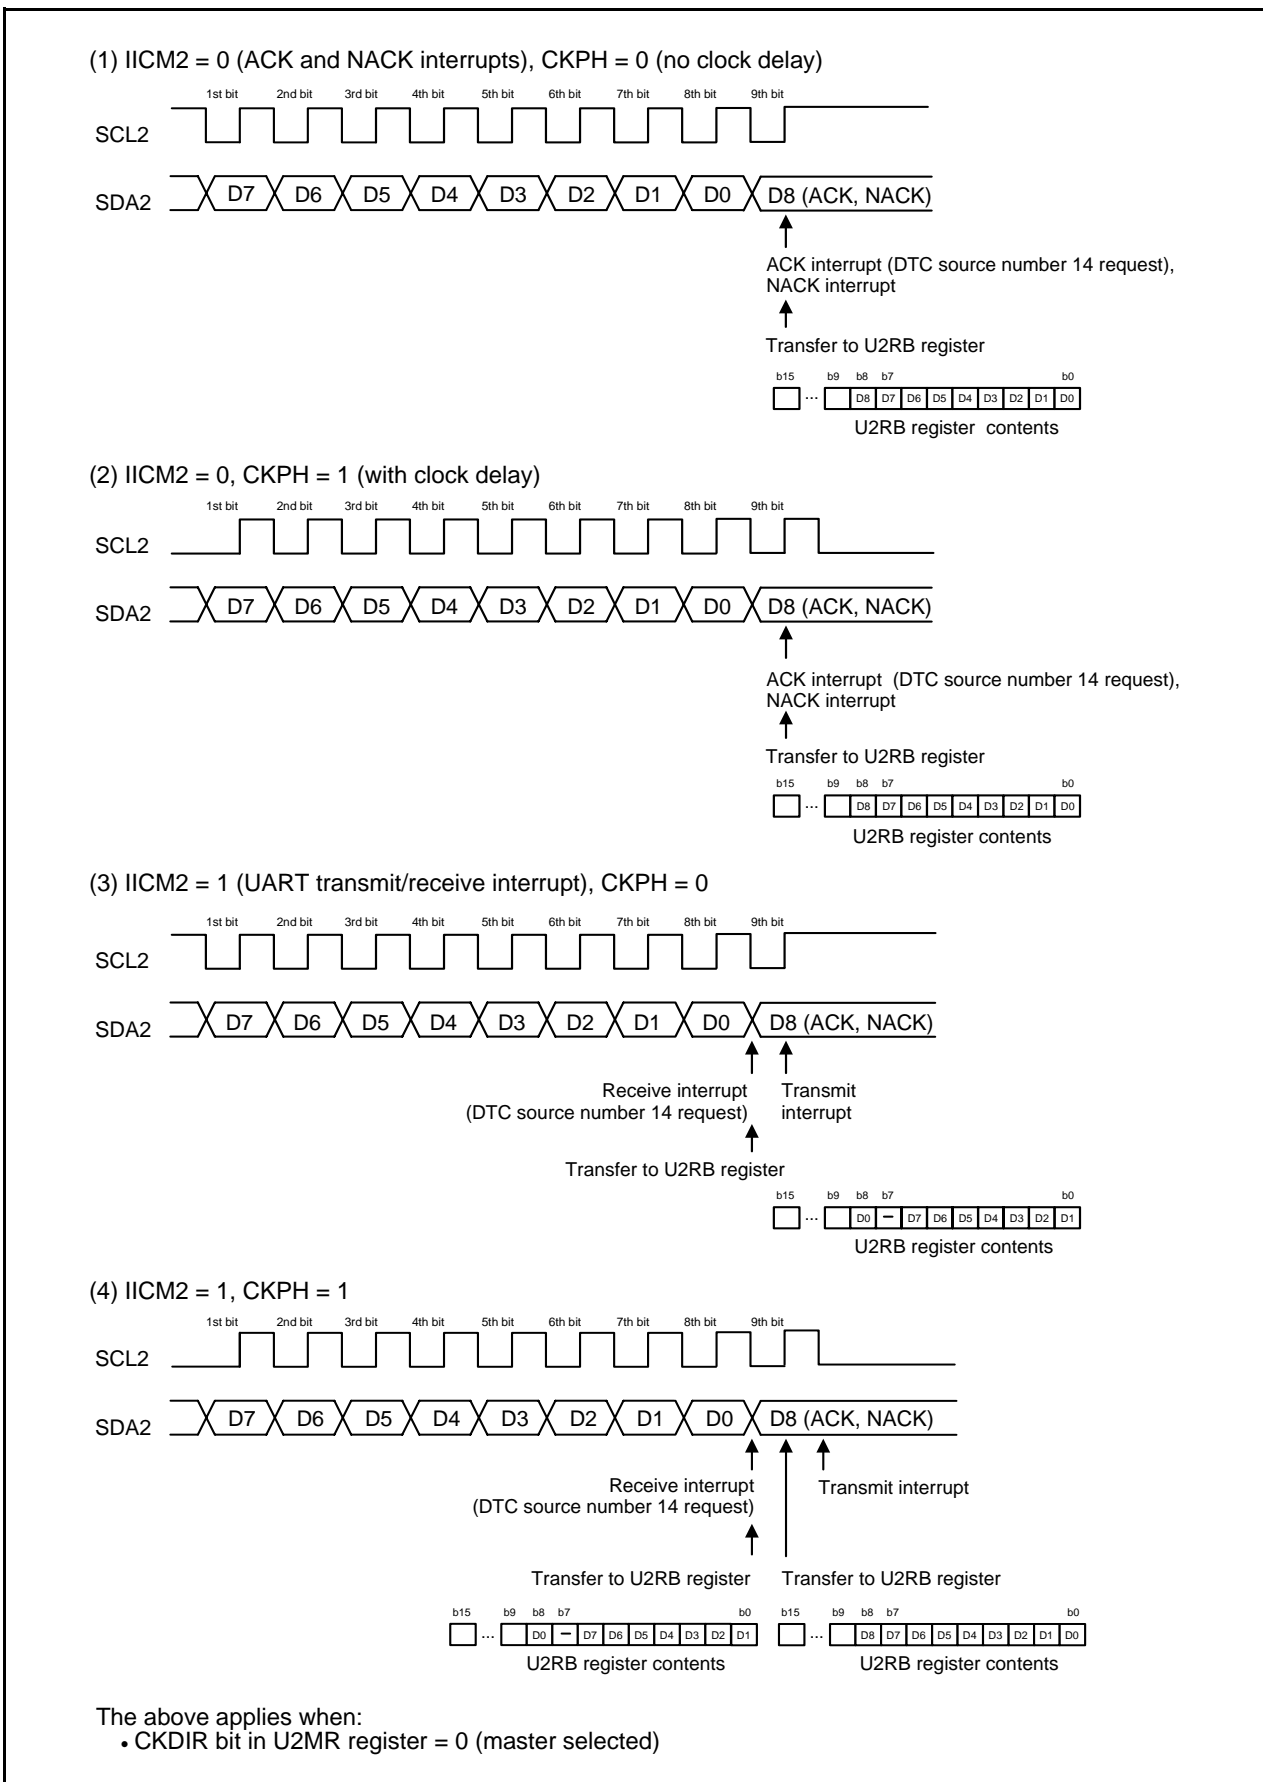

Figure 23.14 Transfer to U2RB Register and Interrupt Timing
I2C mode is provided for use as a simplified I2C interface compatible mode. Table 23.9 lists the I2C Mode Specifications. Tables 23.10 and 23.11 list the registers used in I2C mode and the settings. Table 23.12 lists the I2C Mode Functions, Figure 23.13 shows an I2C Mode Block Diagram, and Figure 23.14 shows the Transfer to U2RB Register and Interrupt Timing.
- Refer to **Figure 23.14 Transfer to U2RB Register and Interrupt Timing**.
The transfer clock is used to transmit and receive data as is shown in **Figure 23.14 Transfer to U2RB Register and Interrupt Timing**.